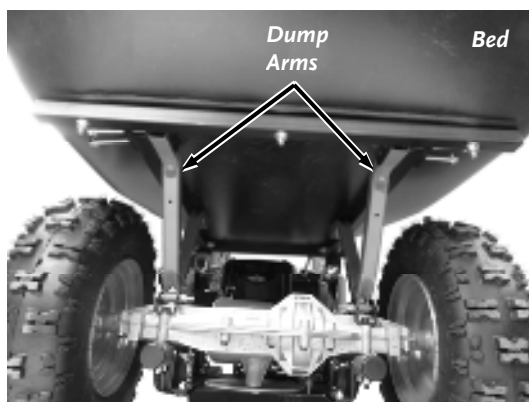

Figure 12
6. Place the Bed on the Power Wagon with the Dump Arms inside the Frame at the front of the Bed Assembly (Figures 12).